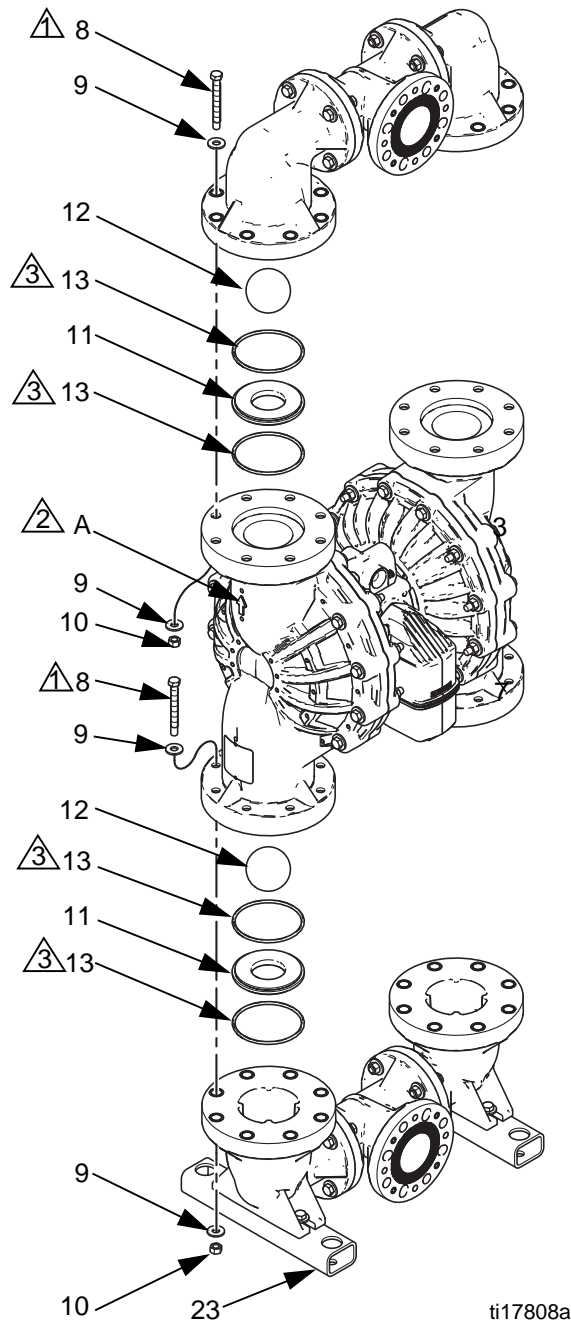

FIG. 4. Ball check valve assembly
- Use a 3/4 in. (19 mm) socket wrench to remove the outlet elbow fasteners (8), then remove the manifold assembly. See FIG. 4.
- Remove the o-rings (13, *not used on some models*), seats (11), and balls (12).
- Reassemble in the reverse order, following all notes in FIG. 4. Put the inlet manifold on first. Be sure the ball checks (11-13) and manifolds are assembled **exactly** as shown. The arrows (A) on the fluid covers **must** point toward the outlet manifold.